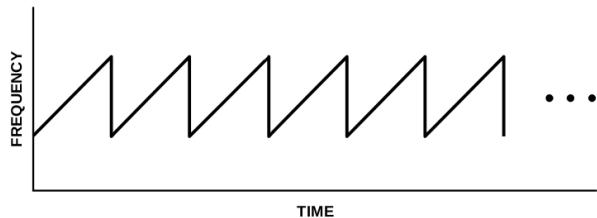
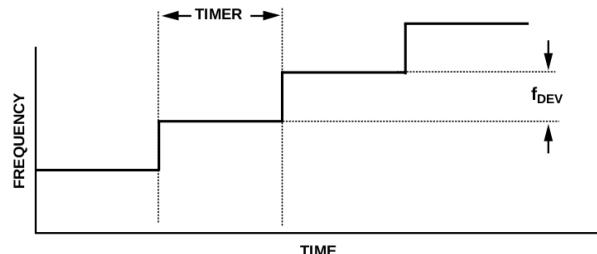

Figure 2.8: Sawtooth ramp.
Figure 2.9: Waveform timing.
The ADF4158 is capable of producing several different waveforms. The one used in this design is a sawtooth ramp in frequency as a function of time, shown in Figure 2.8. There are 3 different parameters that determine the shape of a ramp: (1) frequency deviation (the amount the frequency increases at each time step), (2) timeout interval (the amount of time between each time step) and (3) the number of time steps. This is shown diagrammatically in Figure 2.9. The equations governing these parameters are given in Equation 2.9. The number of steps is set directly in register 6. In our configuration $f_{DEV} = 300\text{kHz}$ and Timer = $0.5\mu\text{s}$, which given that the number of steps is equal to 2000 and the starting frequency is 5.3GHz, the sawtooth will ramp from 5.3GHz to 5.9GHz in 1ms. We also use a delay between bursts of 2ms. Equation 2.10 is used to derive this.